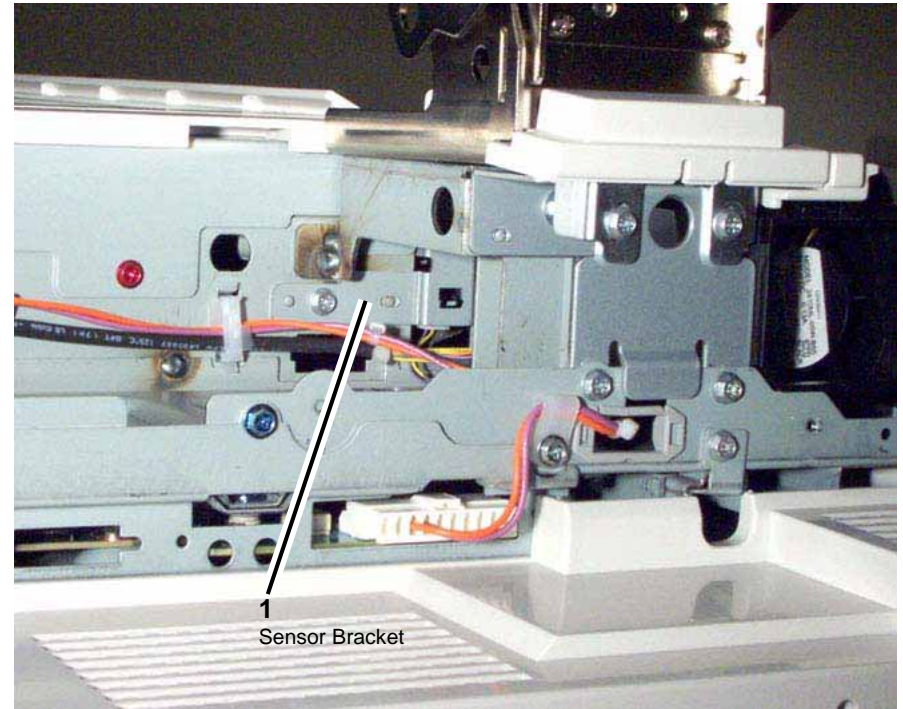

Figure 1 IIT Registration Sensor Bracket
- a. Remove (4) securing screws.
4. Remove the IIT Registration Sensor Bracket. Figure 1
- a. Remove the securing screw (1).